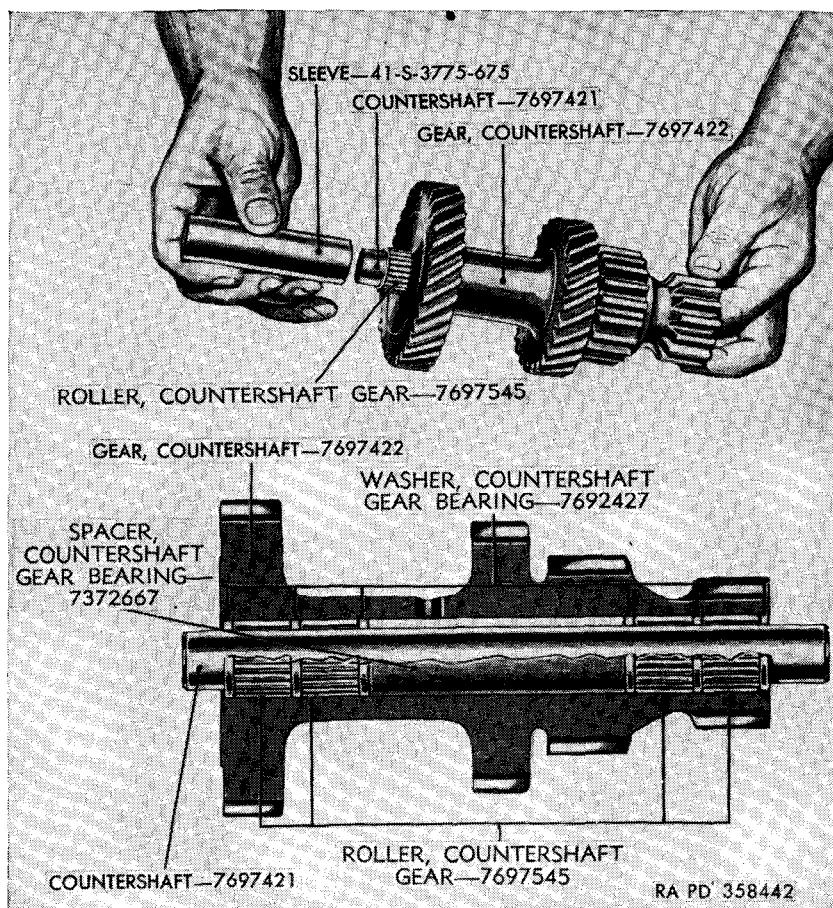

Figure 32. Seating countershaft gear rollers and washers, using sleeve 41-S-3775-675.
32). Install another countershaft gear bearing washer (EE) at each end, followed by another set of countershaft gear rollers, and finally, a third countershaft gear bearing washer (EE) at each end. Sequence of assembly of these parts is shown in figure 32.